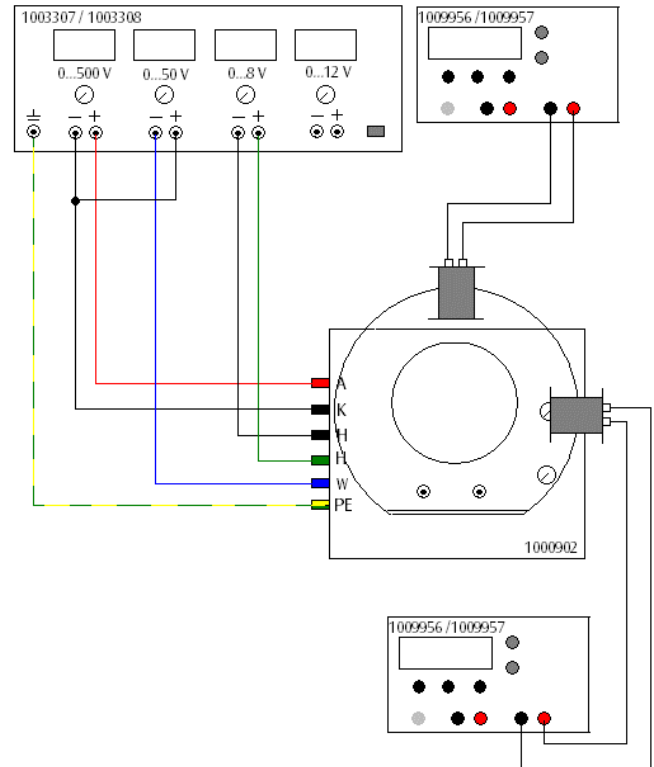

Fig. 4: Positioning and connection of coils.
- Attach a coil to the metal ring as shown in Fig. 4 facing inwards and with its axis horizontal.
- Connect the inputs of the coil (green, yellow) to the function generator (set to a sinusoidal voltage at 50 Hz) as shown in Fig. 4. Select an amplitude such that the line which appears on the oscilloscope screen is about half the screen diameter in length.
- Turn on the AC/DC power supply and adjust the (AC) voltage until an ellipse appears.